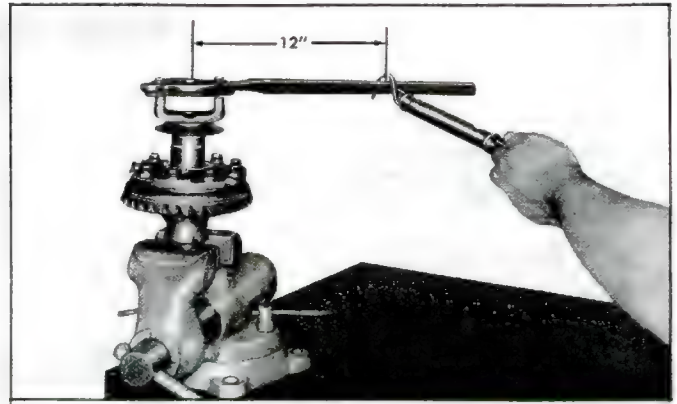

Fig. 59—Checking Clutch Pack Preload—On the Bench
2. Insert scrap disassembled axle shaft yoke into one side gear. Slide piece of 1" bar stock at least 14" long into yoke (fig. 59).
3. With pull scale installed 12" from differential centerline, check torque to rotate yoke and side gear (fig. 59). Torque reading should be 50 ft. lbs. minimum.